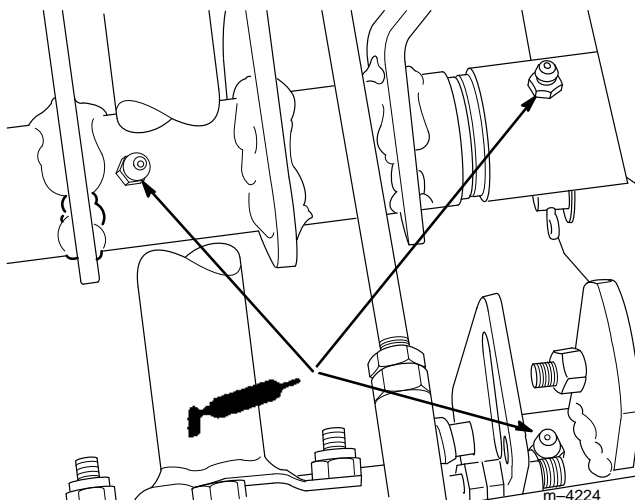

Figure 33
4. Lubricate the three grease fittings (Fig. 33).